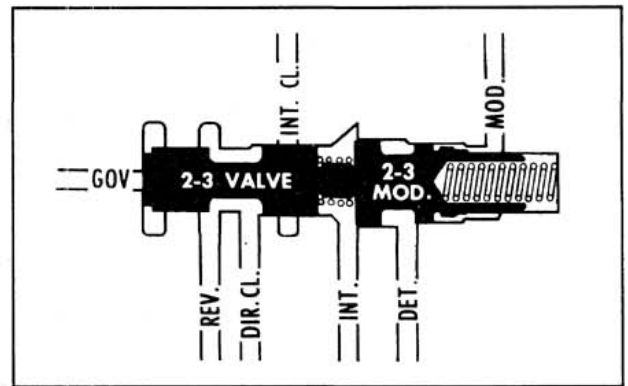

Fig. 6-7 2-3 Shift Valve
**2-3 SHIFT VALVE (Fig. 6-7)**
**2-3 MODULATOR VALVE (Fig. 6-7)**